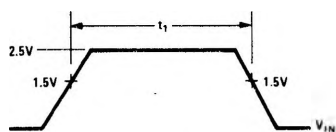

Figure 1
4. Set-up time(t_1) for input trigger pulse > 40 ns. (See Figure 1)